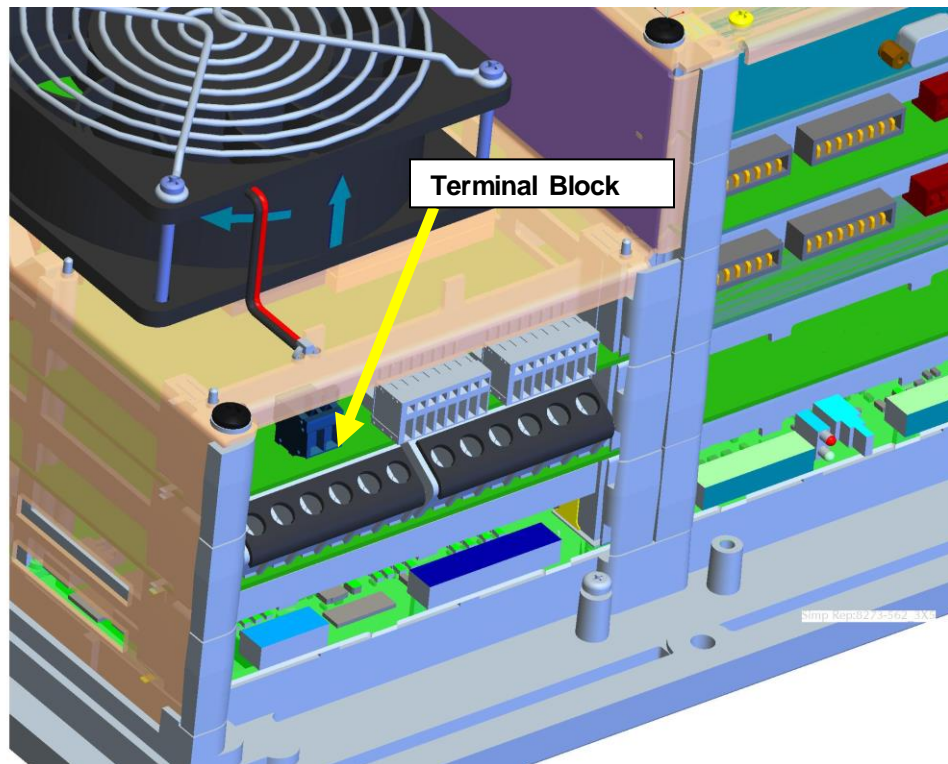

Figure 6-1. Terminal Block Covers
- potential transformer (PT) inputs
- current transformer (CT) inputs
**HIGH VOLTAGE**—To prevent risk of electric shock, make sure that the terminal block covers are installed on the above inputs before operation (see Figure 6-1).